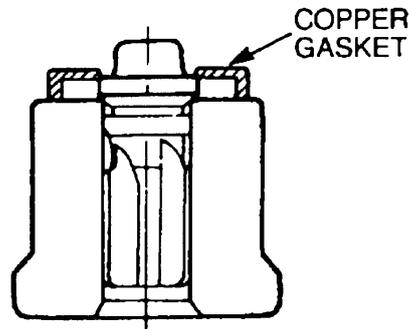

**Figure 76** Checking the Control Rack and Control Pinion
- m. Check the control pinion locking screw for damage (Figure 76) which may prevent the control pinion from being locked in position. Replace worn or damaged parts as necessary.